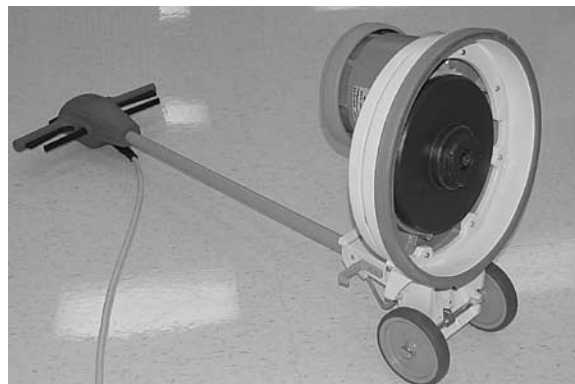

FIG. 5
1. Pull the handle height adjustment lever and raise the handle to the upright position. Carefully tilt the machine backwards and rest the handle on the floor (Figure 5).